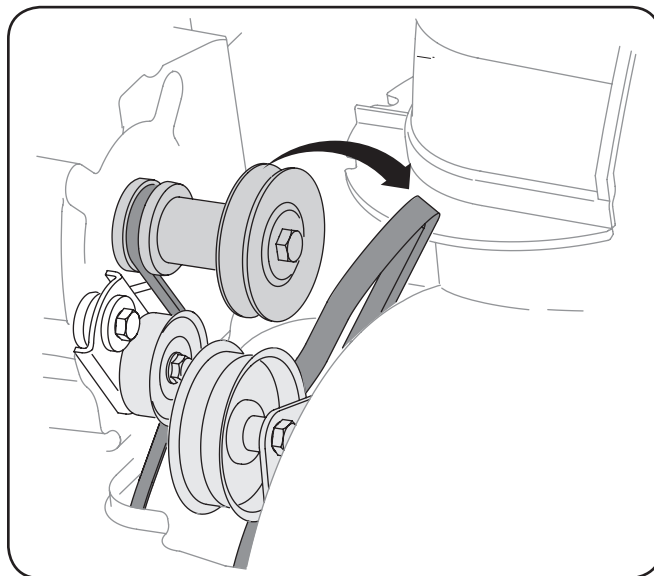

Figure 7-4
4. Roll the auger belt off the engine pulley. See Figure 7-4.